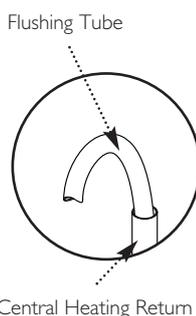

Fig. 35
1. Connect a tube to the central heating flow or return pipe (Fig. 35).